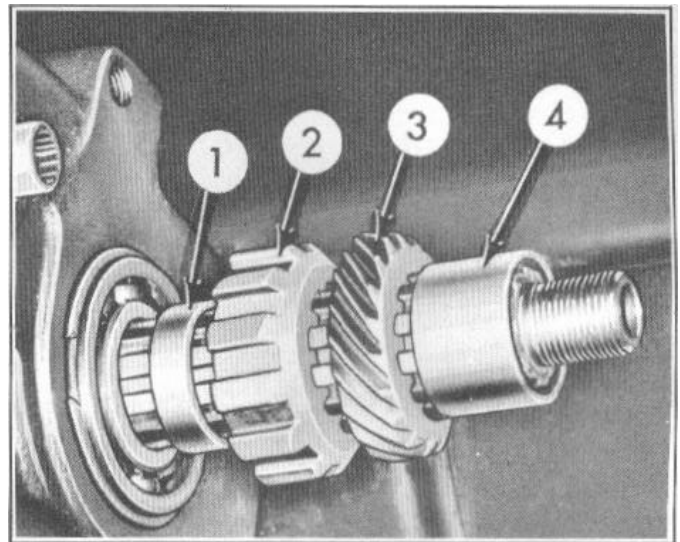

FIGURE 33
6. Install the governor drive gear spacer (1), Figure 33, parking brake gear (2), governor drive gear (3), and transmission companion flange spacer (4) in their proper order. The beveled side of the parking brake gear must be to the rear of transmission.